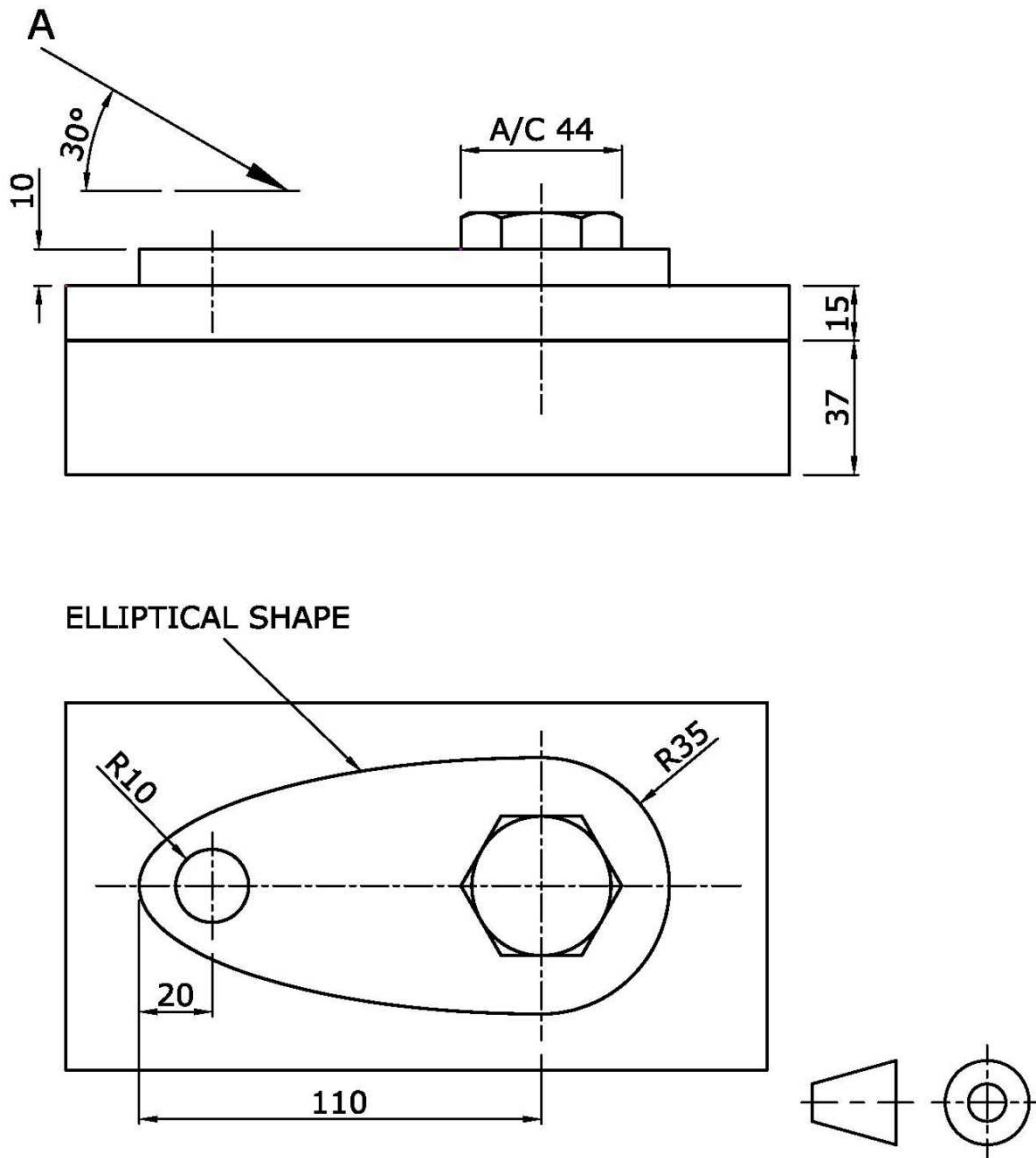

Figure 7b
a) Copy, full size, the assembled locking device shown in Figure 7b. (7)
b) Draw an auxiliary plan of the assembled locking device in the direction of the arrow A. (17)